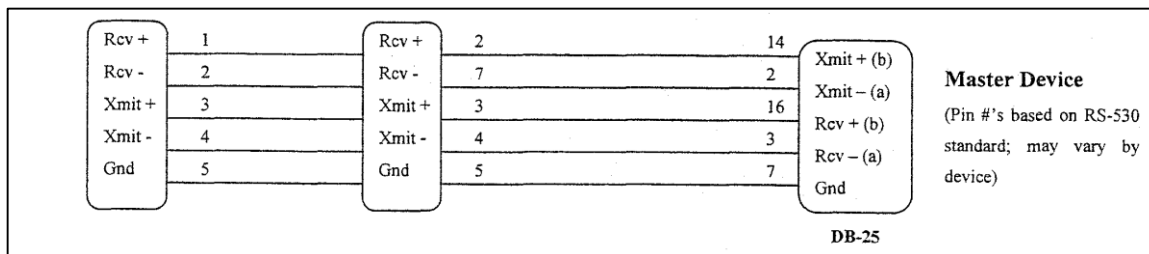

Figure 47. RS422A Wiring (4 wire).
- RS422A Wiring Diagram (Figure 47)